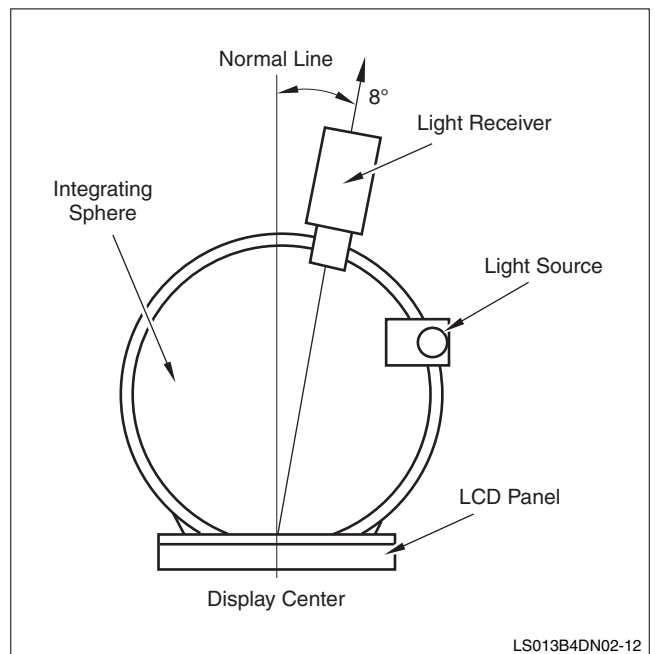

Figure 2. Setup for Contrast, Reflection Ratio, and Chromaticity
- Contrast Ratio, Reflectivity Ratio, and Chromaticity are measured through the use of an integrating sphere. See Figure 2.